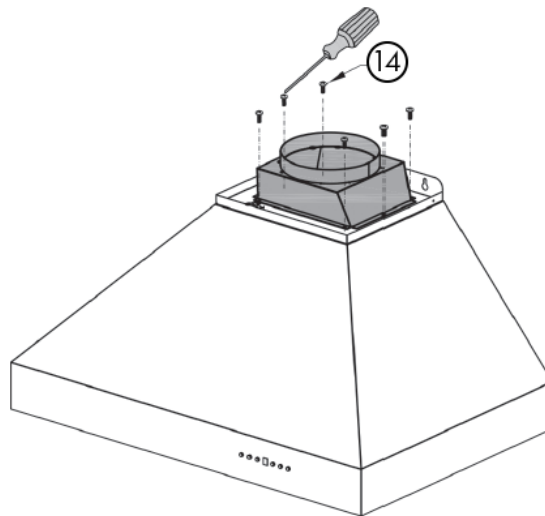

Figure 3
4. Install the transition piece on top of the range hood by securing it with screws (Item No. 14) provided. Some hoods require 4 screws, others require 6. *Figure 3*